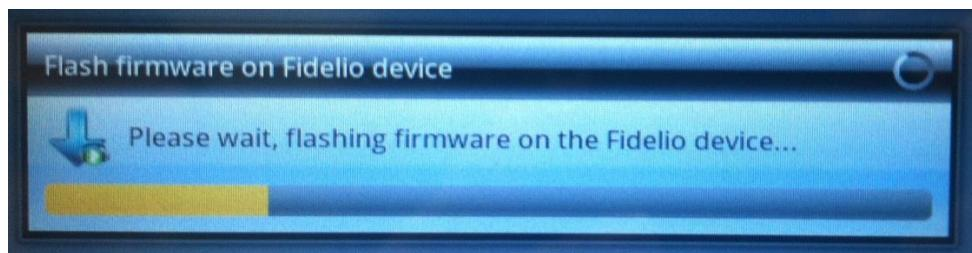

Figure 97: Flashing Progress Window
- The process of flashing will take 1-2 minutes to flash the Fidelio Transmitter (Figure 97).